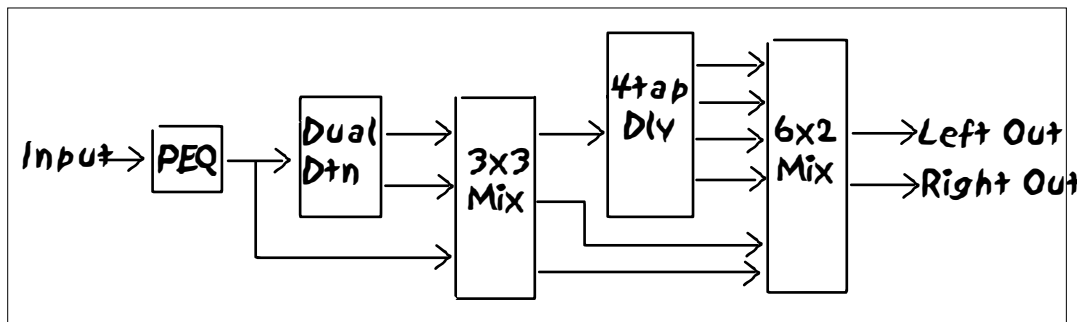

Fig 4-2
- **Diagram your Algorithm Structure** - This will help you avoid confusion, while pulling all the pieces of your Algorithm together. You don't have to possess a technical degree to do this. Simply draw boxes that represent your effects and how you want to connect them together (see fig. 4-2).